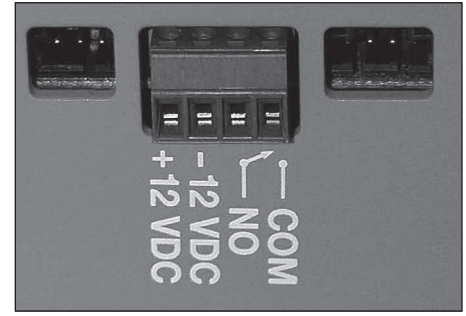

Figure 9
**Note:** If remote alarm detection is desired, connection to the alarm circuit can be made using the normally open contacts provided on the terminal strip. These contacts are rated for 150mA. Do not exceed this amp range or damage to the Control Unit can occur. Exceeding the current rating will void the warranty. **Figure 9**